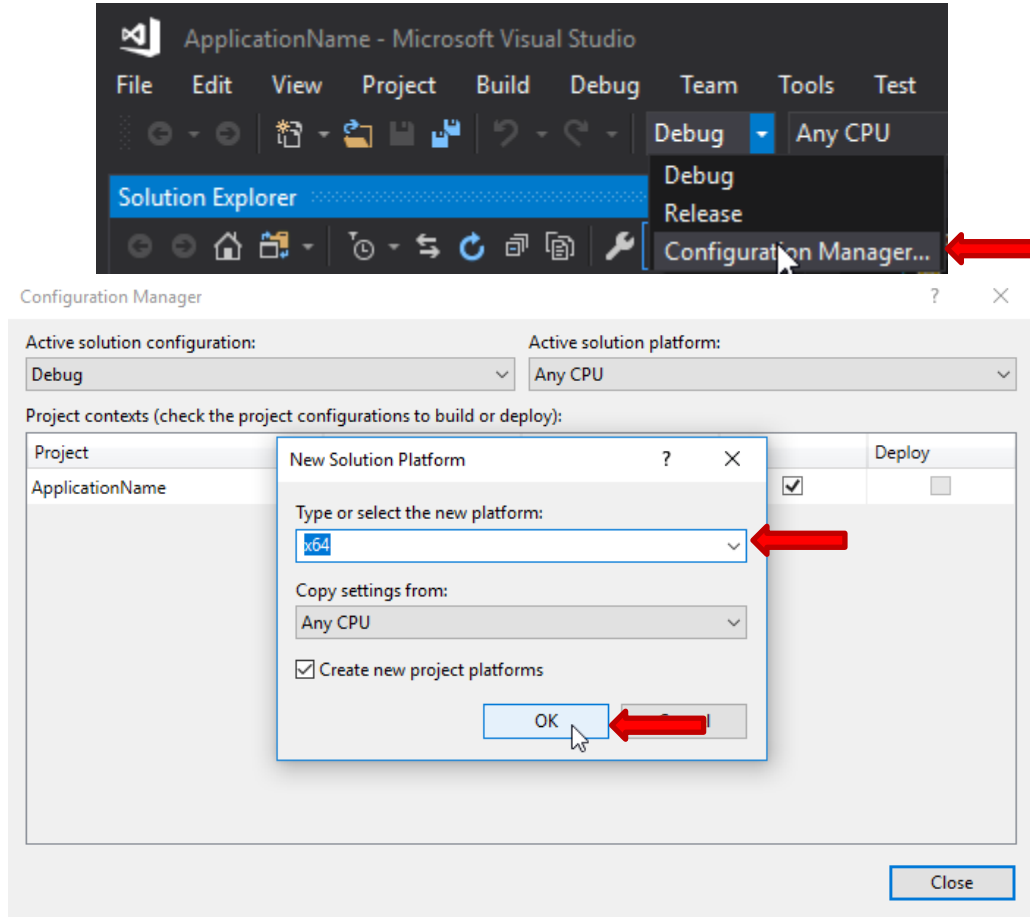

Figure 65 - VS2017 Choose Solution Platform
- 11) Open the Debug Configuration Manager, and change the Active Solution Platform to either x86, or x64 depending on the project requirements per Figure 65 - VS2017 Choose Solution Platform.